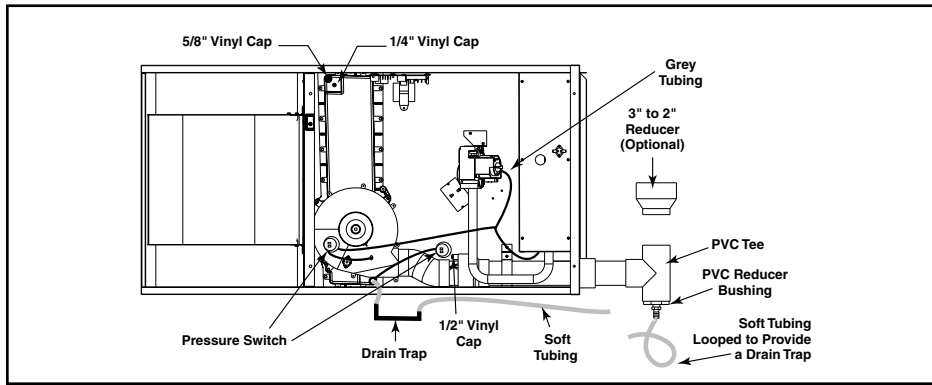

Figure 3. 90+ Upflow Converted for Horizontal Installation (Horizontal Right)
Refer to Figure 3.
5. Place the gray tubing that was removed, to the corresponding pressure tap on the right side of the header box. (Refer to Figure 3)
Note: PVC "T" drain assembly must be installed so that condensate does not get into the induced draft blower. (refer to Figure 3).